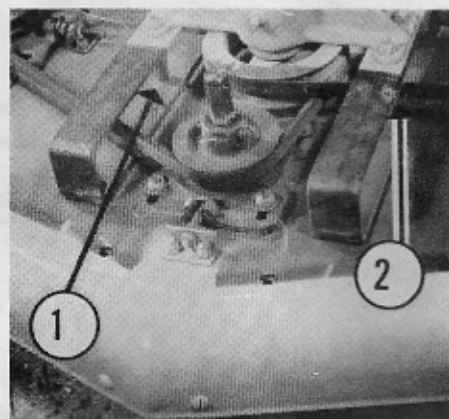

Figure 21
2. Remove the right Drive Mount Support Sleeve, 1 in Figure 21. To do this, elevate the Mower sufficiently to enable you to hold the Sleeve Bolt on the underside of the Deck. Remove the nut from the Sleeve Bolt, tap the Bolt free of the Mower, and remove the Sleeve.
4. Remove the left Drive Mount Support Sleeve, 2 in Figure 21.